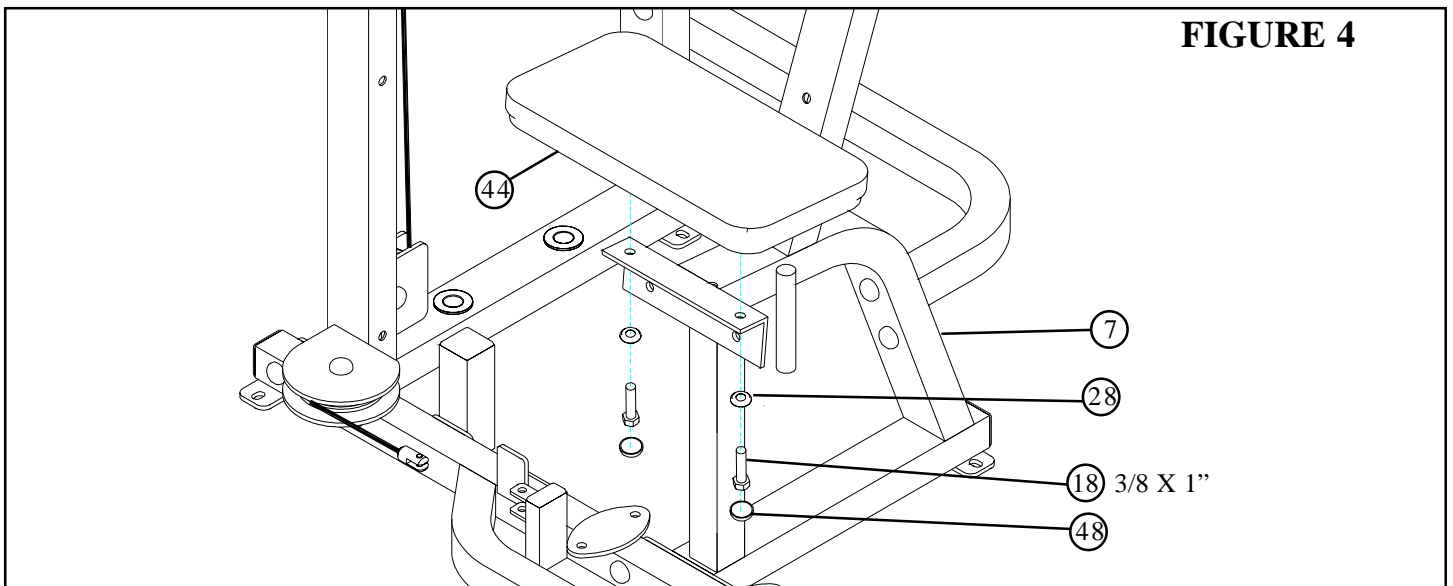

FIGURE 4
- **SECURELY** assemble the SEAT PAD (44) to the SEAT FRAME (7) using two RH CAPS (48), two 3/8 X 1" BOLTS (18) and two 3/8" RH WASHERS (28) as shown in FIGURE 4.